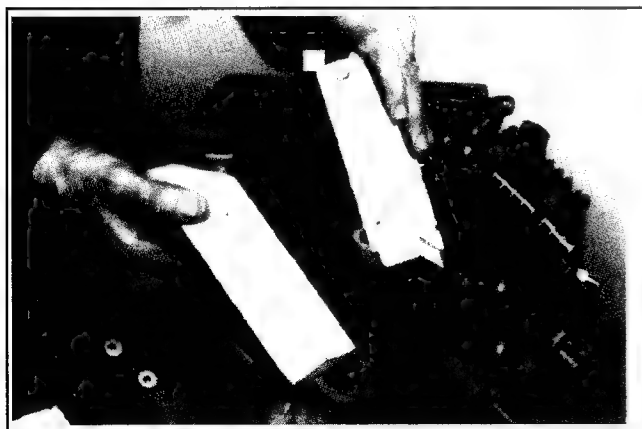

Figure 9-59. Special Valve Blocking Tools.
1. Install valve blocking tools into the cylinders. Install the cover plate and secure with two of the M8x40 mm crankcase bolts. Refer to Section 2 "Special Tools." The valves would fall free without the tool on this engine design. See Figure 9-59.